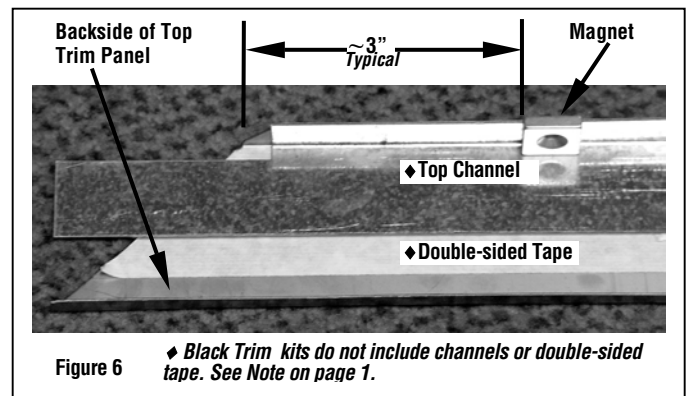

Figure 6
- **Brass and Stainless Trim Kits** - Peel off the backing on double-sided tape on the backside of the top trim panel. Press fit the top channel against the top trim panel as shown in *Figure 6*.
Step 6. Place 2 magnets on the backside of the top trim panel as shown in *Figure 6*.